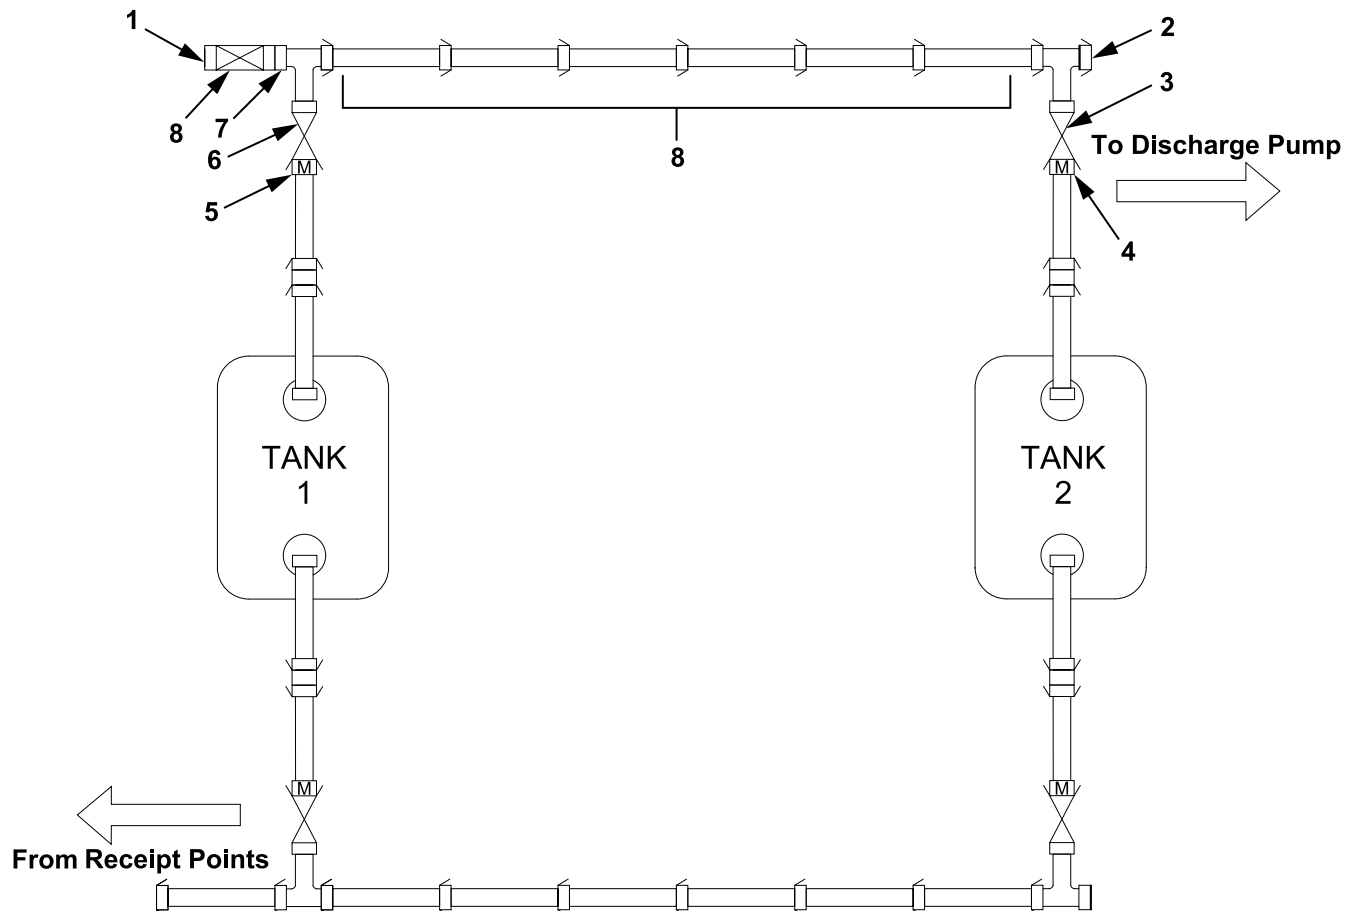

Figure 4. Installation of Tank Issuing Suction Hoses.
22. Remove a 4 in. X 4 in. gate valve from the pallet. Connect the 4 in. X 4 in. gate valve (Figure 4, Item 6) to suction hose (Figure 4, Item 5).
23. Remove a female X male X female tee assembly from the pallet. Connect the female X male X female tee assembly (Figure 4, Item 7) to the 4 in X 4 in gate valve (Figure 4, Item 6). Male in of tee assembly will be facing towards the second fuel tank.
24. Install a 4 in. male camlock X 2 in. valved dry-break adapter (Figure 4, Item 8) to the female X male X female tee assembly (Figure 4, Item 7).
26. Connect six sections of the 4 in. X 10 ft suction hose (Figure 4, Item 8) to the female X male X female tee assembly (Figure 4, Item 7) on the male end towards the second fuel tank.
27. Remove a female X male X female tee assembly from the pallet. Connect the female X male X female tee assembly (Figure 4, Item 2) to suction hose (Figure 4, Item 8) from fuel tank number 1.
28. Remove a 4 in. X 4 in. gate valve from the pallet. Connect a 4 in. X 4 in. gate valve (Figure 4, Item 3) to tee assembly (Figure 4, Item 2) on the female port of tee towards second fuel tank.
29. Connect the 4 in. X 4 in. gate valve (Figure 4, Item 3) to tank volume meter (Figure 4, Item 4).